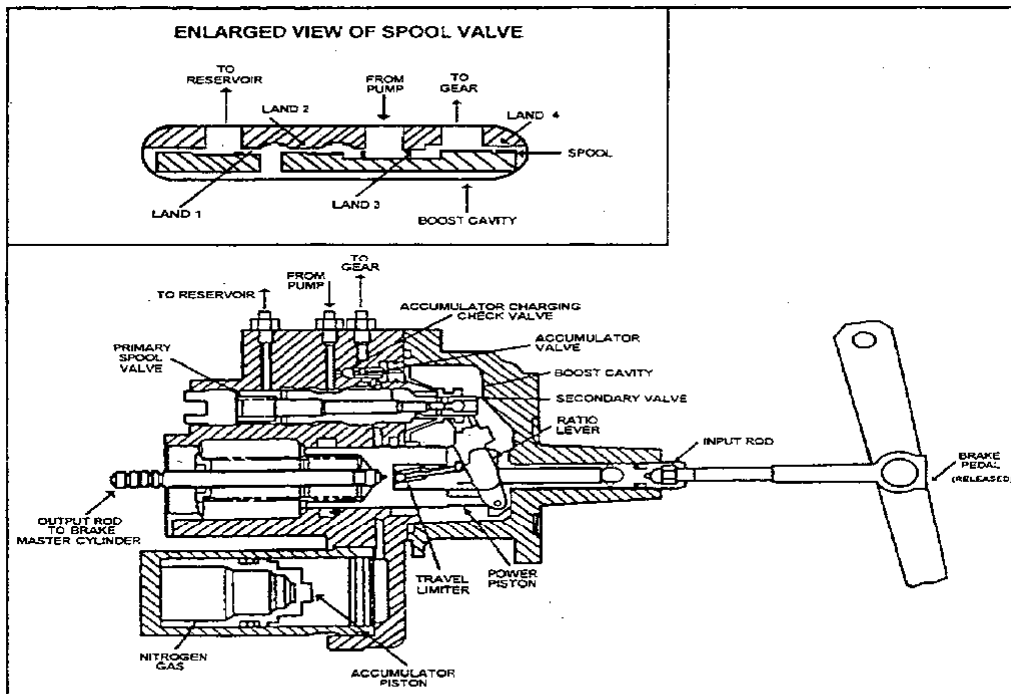

Fig. 7-1. Hydro-Boost - Brakes Released
(3) Compared to conventional vacuum-assisted brake systems, the HydroBoost system delivers at least 30 percent more stopping power for heavily loaded trucks and buses. Additionally, brake performance is unaffected by mountain driving. Vacuum systems lose some of their power at high altitudes due to reduced atmosphere density.
(4) The integral Hydro-Boost brake system was developed for medium duty trucks and buses and is generally used in vehicles up to 46,000 lbs. gross vehicle weight rating (GVWR).
c. Operation - Brakes Released. Figure 7-1 illustrates the Hydro-Boost with brakes released (the master cylinder is not shown) and operates as follows:
(a) Pressure Port. The high pressure line from the power steering or brake pump is connected to this port and provides the necessary pressure for the Hydro-Boost unit. This port is marked "from pump" at the top of the unit in Figure 7-1, just below the enlarged view of the spool valve.
(b) Gear Port. The high pressure line leading to the power steering gear is connected to this port which provides regulated hydraulic power assist for the steering gear. This port is marked "to gear" in Figure 7-1.
(c) Return Port. The return line to the power steering or brake pump reservoir is connected to this port which completes the system of fluid circulation. This port is marked "to reservoir" in Figure 7-1.